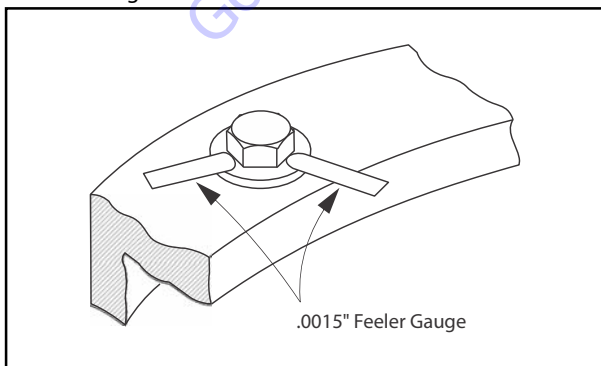

Figure 3-54. Swing Bearing Bolt Feeler Gauge Check
- b. At the positions indicated on Figure 3-54.. try and insert the 0.0015 in. (0.0381 mm) feeler gauge between the bolt head and hardened washer at the arrow indicated position.
- b. Try and insert the 0.0015" feeler gauge between bolt head and hardened washer at position shown in Figure 3-54.
- d. Try and insert the 0.0015" feeler gauge between bolt head and hardened washer at position shown in Figure 3-54.